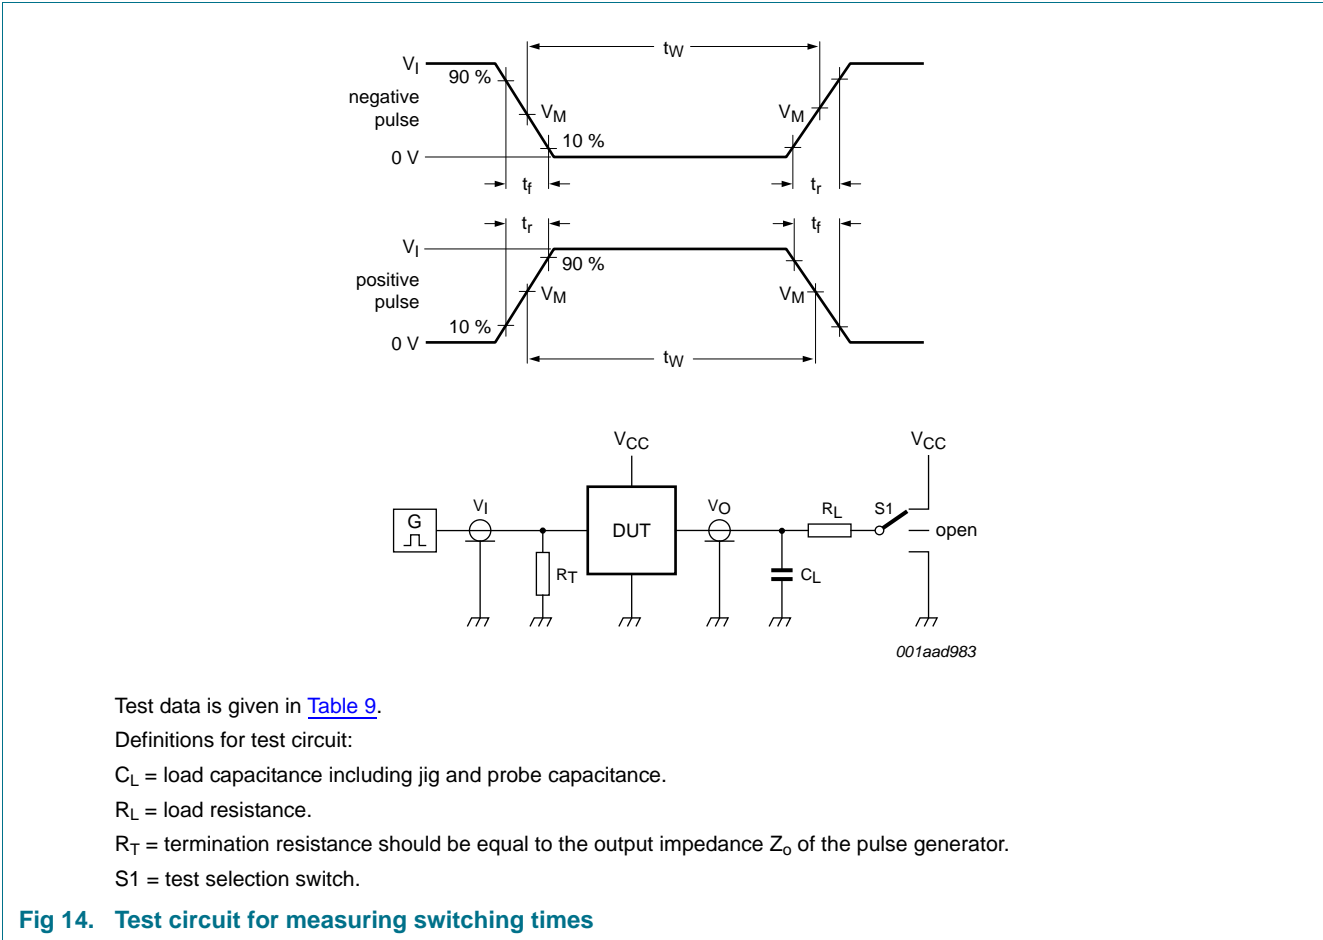

Fig 14. Test circuit for measuring switching times
Voltages are referenced to GND (ground = 0 V); for test circuit see Figure 14.
*Voltages are referenced to GND (ground = 0 V); for test circuit see Figure 14.*